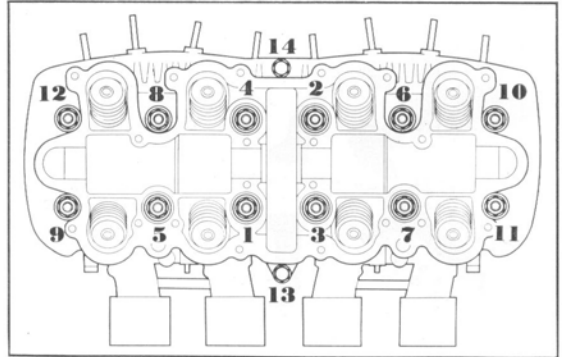

Fig. 83
11. Tighten the twelve 8 mm nuts uniformly with the special tool (Tool No. 07906-3230000) to a torque of **2.0~2.2 kg-m** (**14.46~16.63 ft-lbs**) in the sequence shown in Fig. 83.